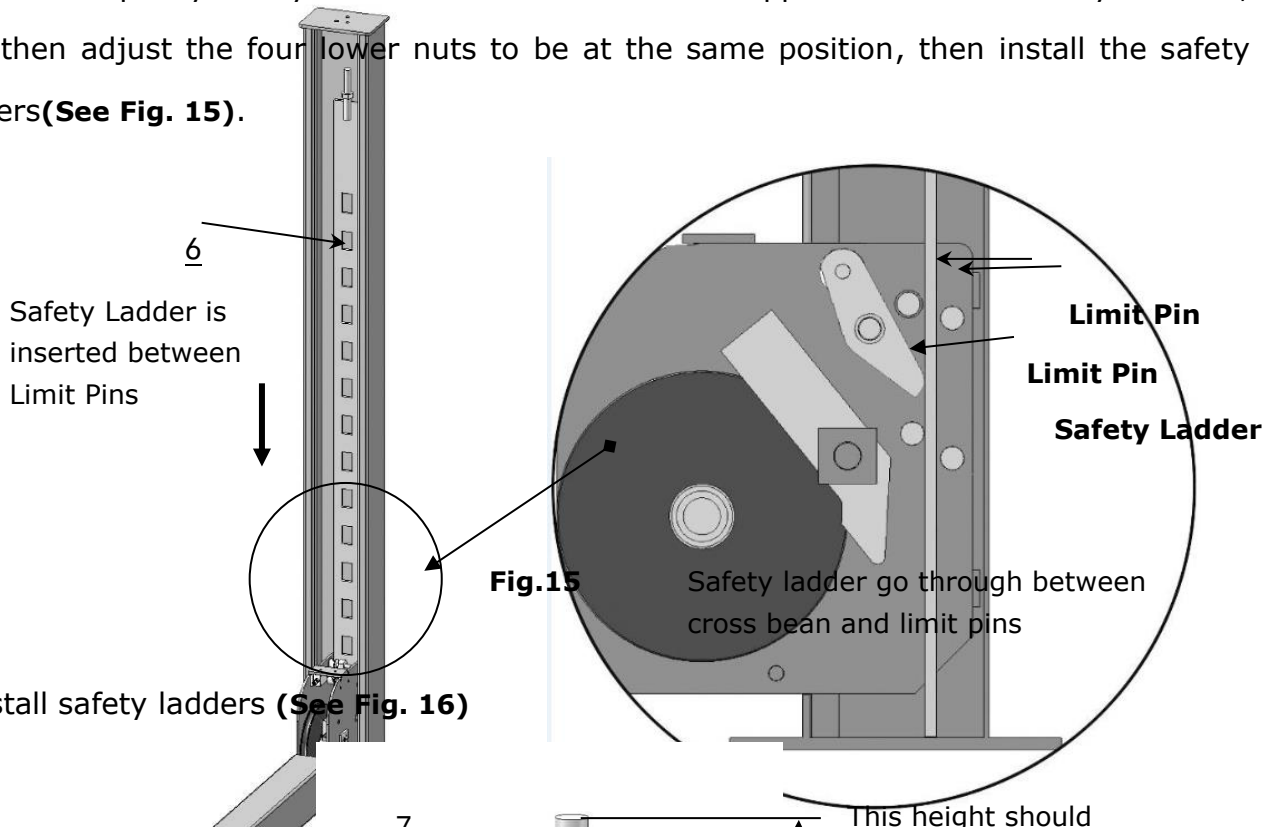

Fig.15
1. Take off the pulley safety cover and unscrew the four upper nuts of the Safety Ladders, and then adjust the four lower nuts to be at the same position, then install the safety ladders (See Fig. 15).